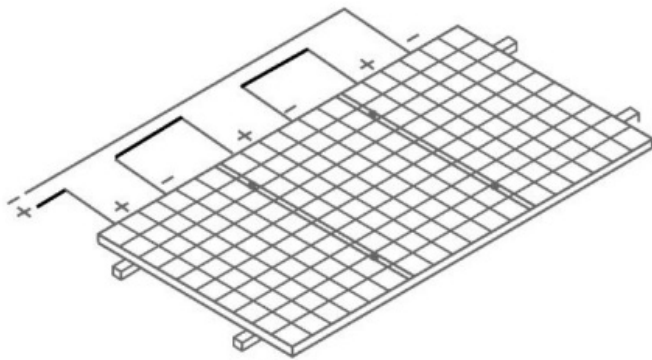

Figure 5 Connection in Series
- It is not allowed to use the Modules in different models in the same solar photovoltaic system. When the Modules are connected in series, the voltage of every string shall not be higher than the maximum voltage of the system (as shown in Figure 5). Reference equation of the maximum number of the Modules in serial connection:  $\text{maximum system voltage of the module} / (1.25 \times \text{open-circuit voltage})$ .